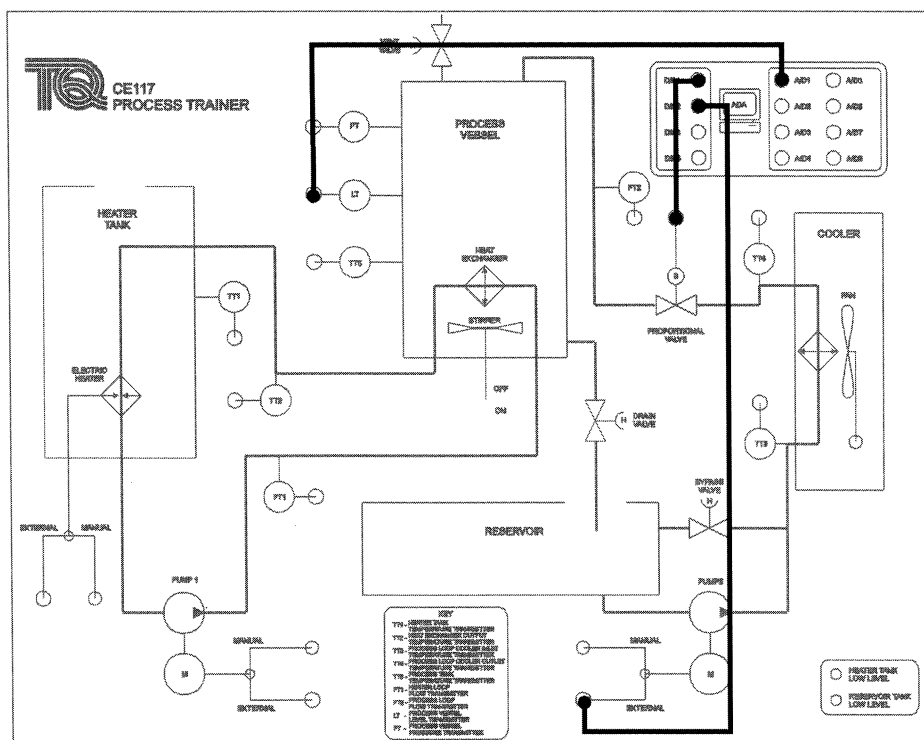

Figure 66 Connections For Experiment 4 Procedure 3
- 3) Connect the CE117 Mimic Panel as shown in Figure 66. Set Pump 2 switch to 'External'. Analogue signals will pass from the ADA section to Pump 2, the proportional valve (S) and from level transmitter (LT). The relay block in the software turns the proportional valve fully on and fully off, so that it acts like a standard solenoid valve.